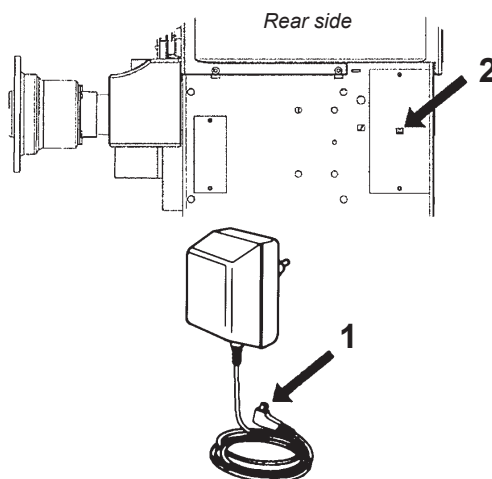

Figure 8a
- Plug the power output plug (1, Figure 8a) of the adapter into the power socket of the balancer (2).